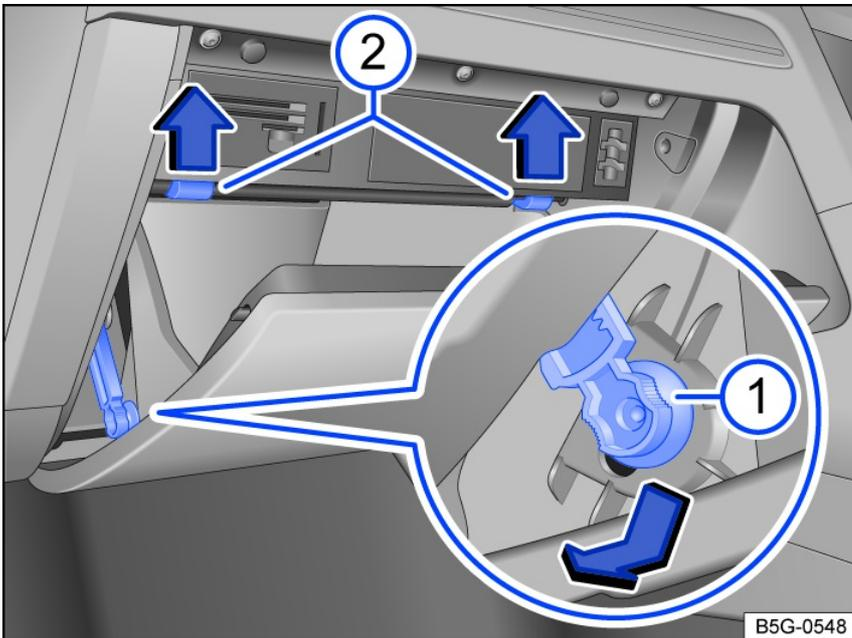

Fig. 177 Fuse box cover on the instrument panel: On the passenger side in right-hand drive vehicles.
- Push the damper element in the direction of the arrow and into the opening in the bracket, before pulling it out sideways *fig. 177* ①.
- Push the catches up in the direction of the arrow while at the same time opening the storage compartment further *fig. 177* ②.
- To *refit* the storage compartment, first put it into position. Fit the damper element into the opening in the bracket and push it in the opposite direction to the arrow *fig. 177* ① until you hear it click into place. Carefully push the storage compartment forward, beyond the point at which the catches offer resistance *fig. 177* ②.